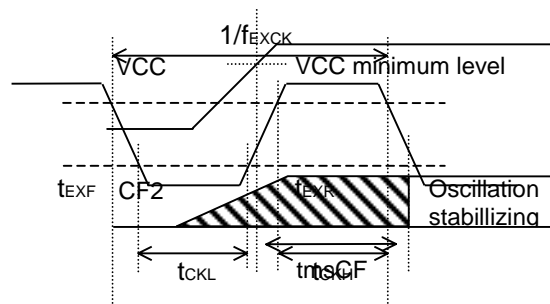

Figure 2 Time for Oscillation to Stabilize
*NOTE The time for oscillation to stabilize is the period of time required for the CF oscillator to stabilize either from the point when VCC reaches the minimum voltage level after power-on or from when standby mode is released. (Refer to Figure 2)